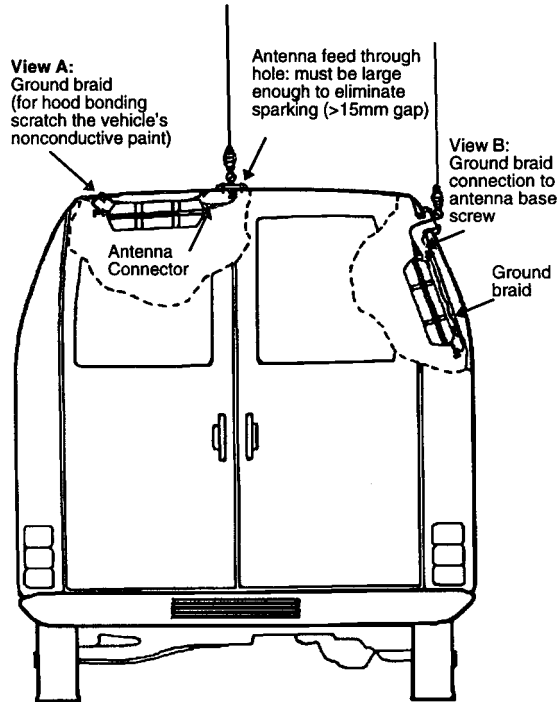

Figure 2-2. Effective Installations
Examples of effective installations are given in Figure 2-2.
Step 2. Connect the ATU ground terminal to the vehicle body with a wide grounding braid, as shown in Figure 2-2, view A. Ensure that the grounding braid is as short as possible. If the ATU is installed on the inner side of the vehicle's body (see Figure 2-2, view B), a second grounding braid should be placed beneath the ATU and connected to one of the bolts securing the antenna base.